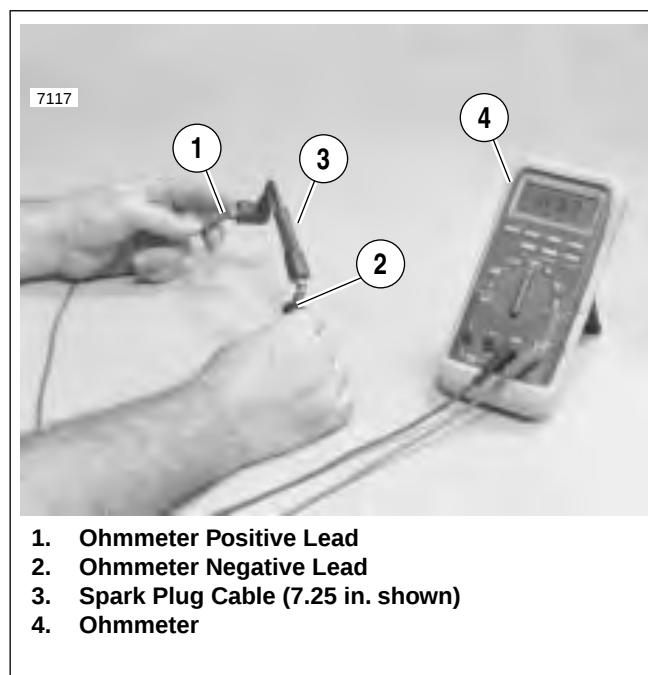

Figure 7-7. Testing Resistance
See Figure 7-7 The ignition coil is mounted on the frame underneath the fuel tank and behind the steering neck.
See Figure 7-7 The ignition coil (12) is a pulse-type transformer. Internally, the coil consists of primary and secondary windings with a laminated iron core. The contents are sealed in a waterproof insulating compound. The ignition coil is not repairable. Replace the unit if it fails.
4. See Figure 7-7 Disconnect the spark plug cables from the coil plug posts (1, 2).
5. Detach connector (7) [83].
2. See Figure 7-7 Attach connector (7) [83].
3. Connect front spark plug cable to connector (2) and rear spark plug cable to connector (1).